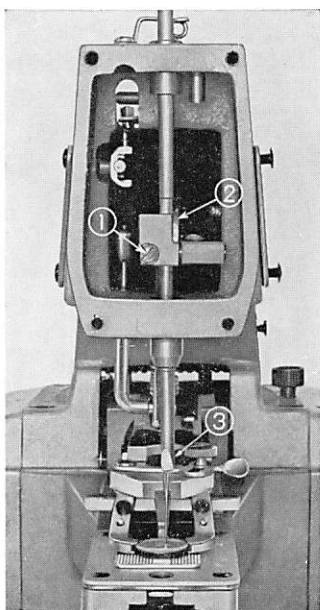

Fig. 12
13. ADJUSTING THE NEEDLE BAR (Fig. 12, 13)
There are two timing lines at the top of the needle bar and two timing lines at the bottom, a total of 4 timing lines (Fig. 12). For adjusting the height of the needle bar, use the upper pair of timing lines when using short needles (TQ×1); for using long needles (TQ×7) use the lower pair of timing lines.